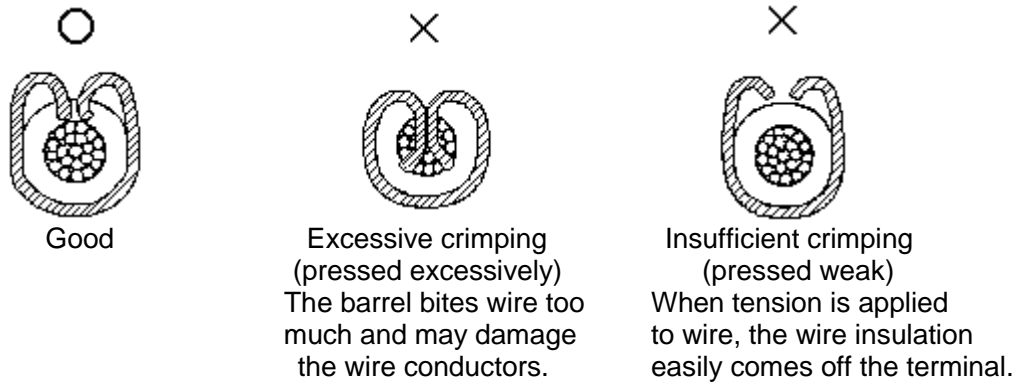

Fig.7
② Crimping condition of wire insulation barrel (Fig 7)